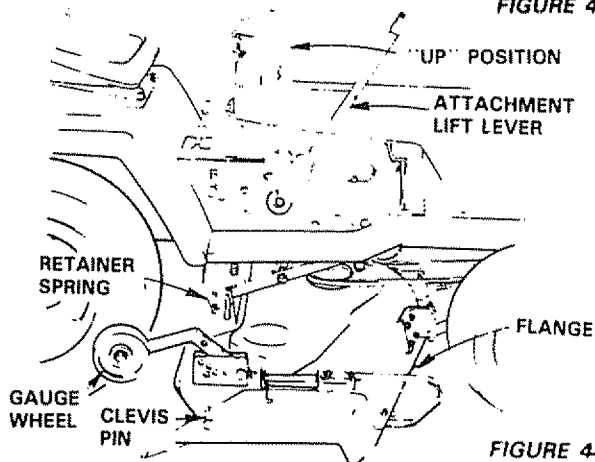

FIGURE 44
- Move attachment lift lever to full "UP" position (Fig. 44).
- With mower deck at desired height, set gauge wheels (Fig. 44) to lowest position without touching the ground.
- Use clevis pin (Fig. 44) to set gauge wheels at lowest point without touching the ground.